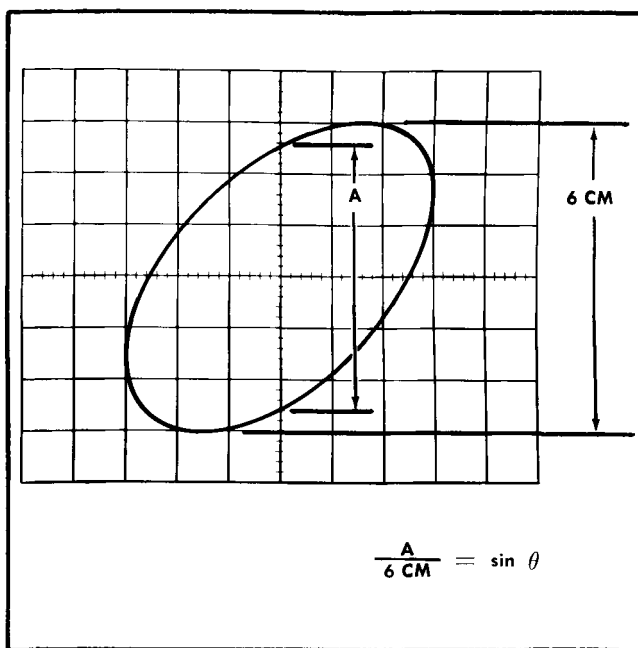

Fig. 2-8. X-Y method of calculating phase difference (θ) of two sine waves.
3. Measure the distances A and B on the display as shown in Figure 2-8.